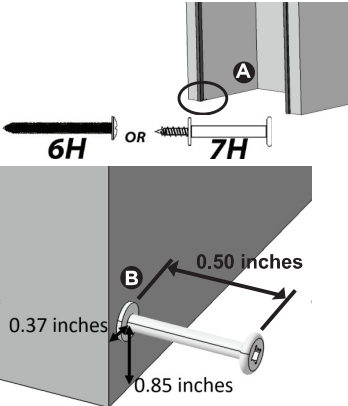
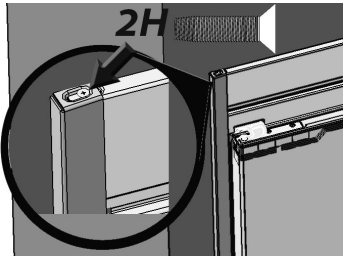

Fig. 9
Fig. 14
- 5. Using eight 3H screws and a power drill, attach the 2 Side Trim Attachment brackets to the front left and right cabinet cutout edges with the brackets touching the floor (Fig. 9). Ensure the rectangular slots extend over the cabinet edge.
Place the Side Trims in position by dropping them over the placement screw as seen in Fig. 9 and fitting them over the Top Trim (Fig. 14).
Fasten a 2H screw to each side of the Top Trim (Fig. 14).